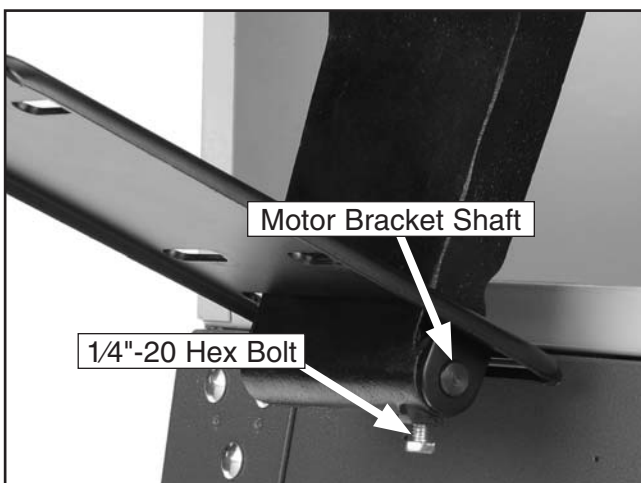

Figure 13. Installed motor bracket shaft.
1. Align the motor bracket with the motor plate and insert the motor bracket shaft as shown in **Figure 13**.